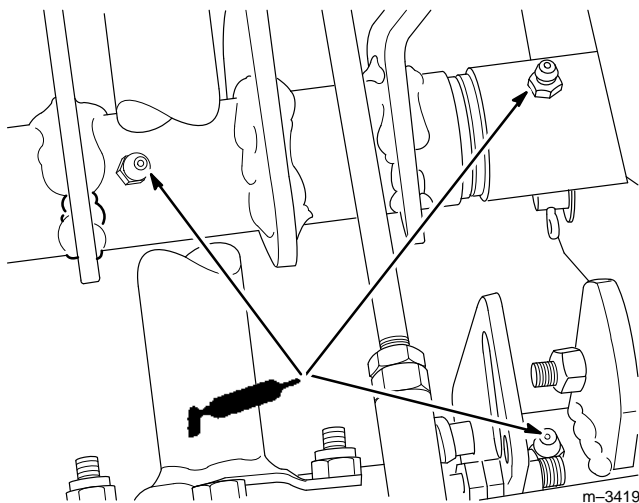

Figure 37
4. Lubricate the three grease fittings (Fig. 37).